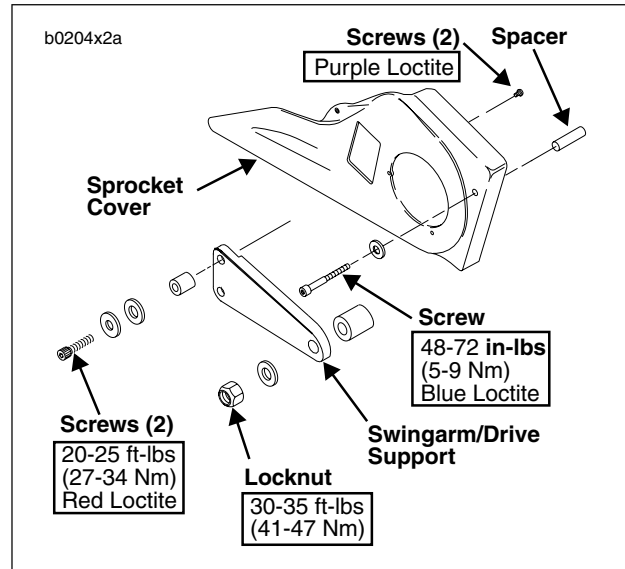

Figure 2-76. Sprocket Cover
4. See Figure 2-76. On the right side of the motorcycle, remove the front sprocket cover assembly.
5. See Figure 2-76. Remove two screws that attach sprocket cover to the backside of the swingarm/drive support. Retain screws.
17. See Figure 2-76. Apply LOCTITE THREADLOCKER 243 (Blue) to threads of two sprocket cover to swingarm/drive support screws and install new sprocket cover to swingarm/drive support.
18. See Figure 2-76. Install sprocket cover assembly with original hardware.